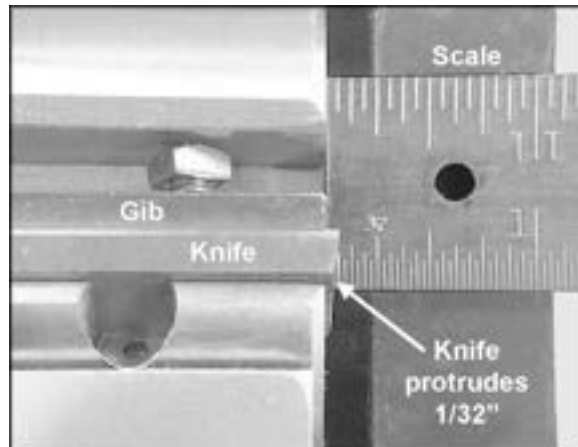

Figure 37 (straight cutterhead)
**IMPORTANT:** To position the knives for rabbet cuts, take a shop scale with 1/32" graduations and place it against the end of the cutterhead. Slide the knife out until it is at the 1/32" mark on the scale; that is, the knife will now be 1/32" beyond the edge of the cutterhead. The gib should remain in normal position, even with the edge of the cutterhead. See Figure 37. This adjustment will ensure that the knife clears the end of the gib and cutterhead and has good contact with the workpiece. (See the "Operation" section for further information on rabbeting procedures.)